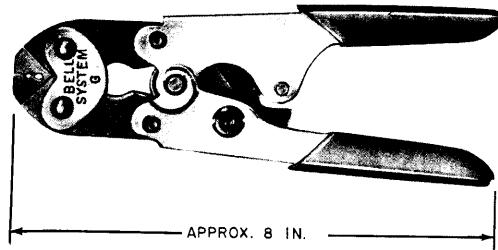
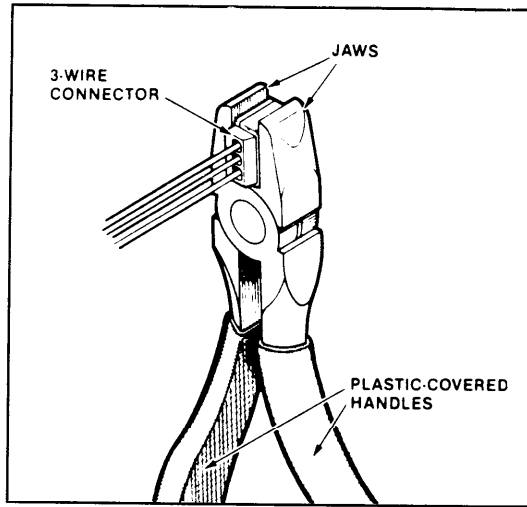
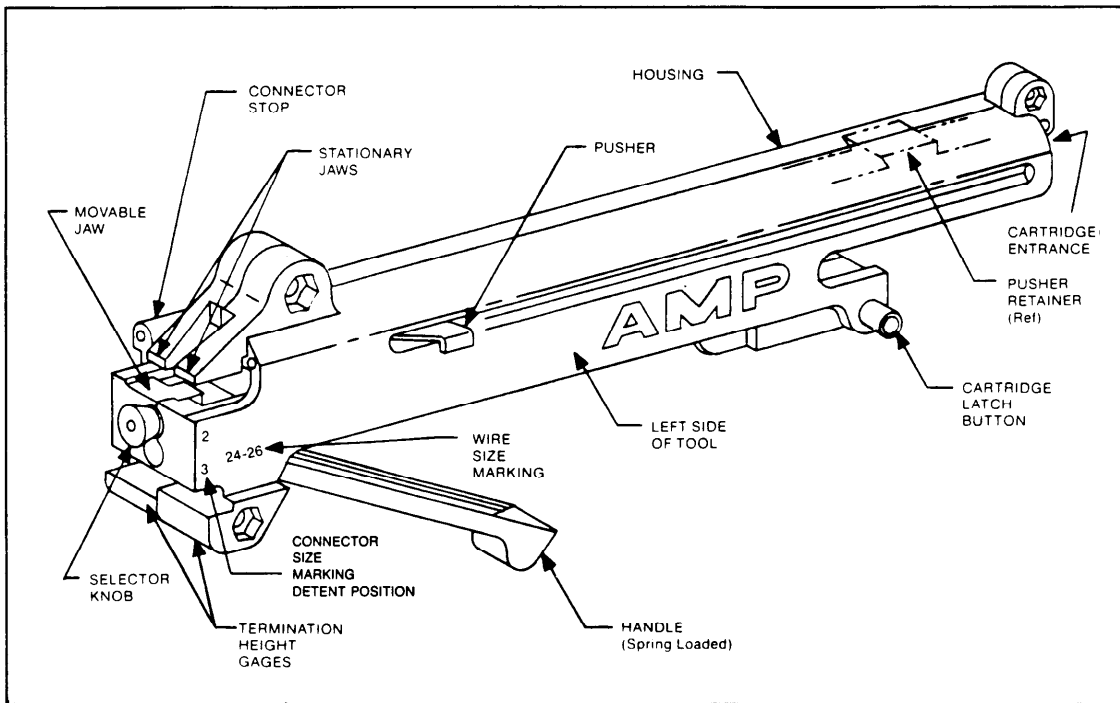

Fig. 1 - G Sleeve Presser
Fig. 3 - Terminating Loose-Piece Connectors
Fig. 4 - Terminating Cartridge Connectors
3.04 Crimp with the approved tool as depicted in Fig. 3 and Fig. 4.
- 3.06 Splice ground wire using the correct size sleeves or connector as shown in Table A. Figure 1 depicts the presser required for splicing. Figure 3 illustrates the completed splice. DO NOT TAPE GROUND WIRE SPLICES.